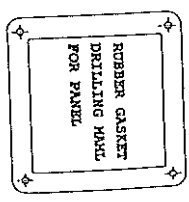

Fig. 11
12. The control-panel should be placed out of the way of any throttles. Because these are often used together with the Sidepower. Use the rubber gasket (Fig. 11) to mark the holes. Drill and cut the holes, and fasten the panel. Connect the contacts as on the diagram on page 8.